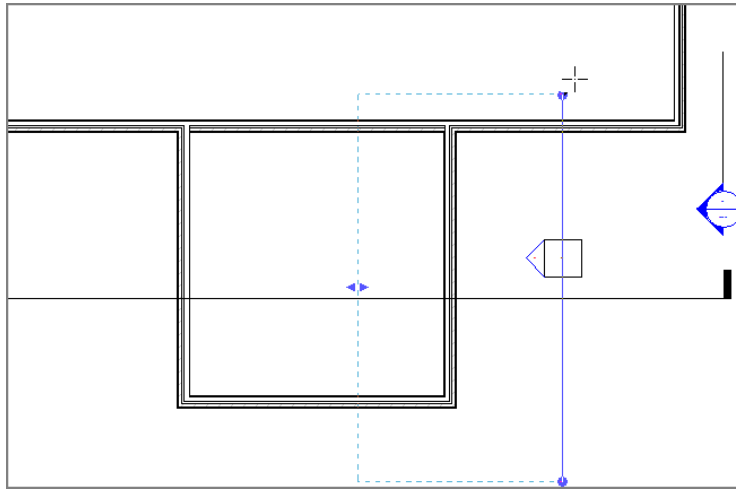

FIGURE 3.78: The elevation is placed. You can select the view arrow and move the extents of the elevation into the building.
4. Pick a place for the elevation, as shown in Figure 3.78, and press Esc to terminate the command.
5. When the elevation is placed, select the triangle. You see the same extents window that you saw in the previous section (see Figure 3.78). This controls how deep into the model you're viewing, and it also shows you the length of the section. Because you placed this elevation up against a wall, Revit stops the extents of the elevation at that wall.
6. Pick the top grip, and stretch the elevation past the wall, as shown in Figure 3.78.